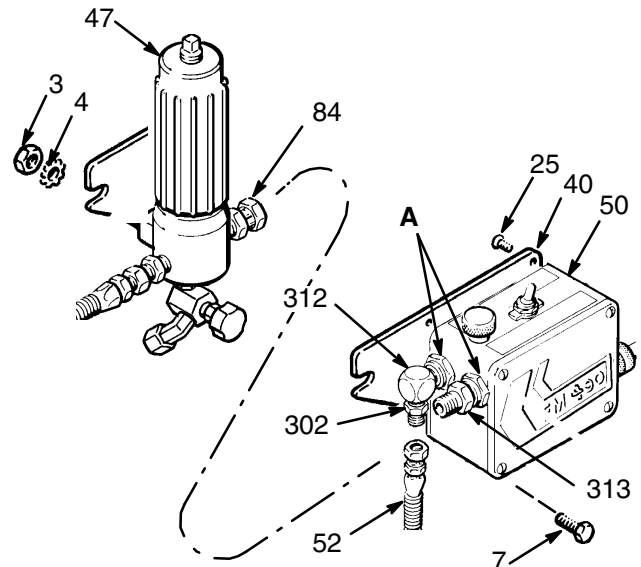

Fig 20
2. Disconnect the hose (52) from the nipple (302). See Fig 20.
4. Remove the screws (7), lockwashers (4), and nuts (3). See Fig 20.
6. Remove the mounting bracket (40). Remove the fittings (302, 312, and 313). Install these parts on the new pressure control. See Fig 20.